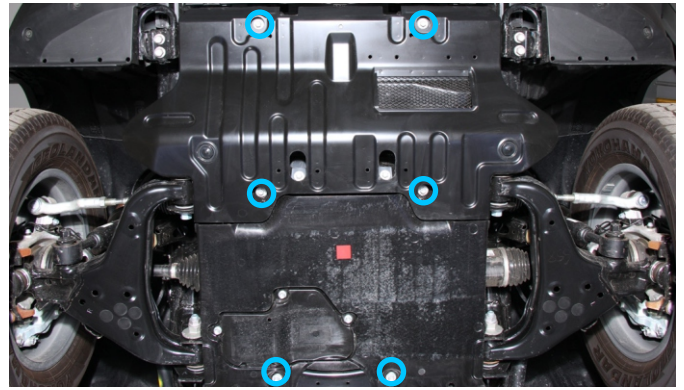

Fig. 2
2. Remove factory skid plates as shown in Fig.2.